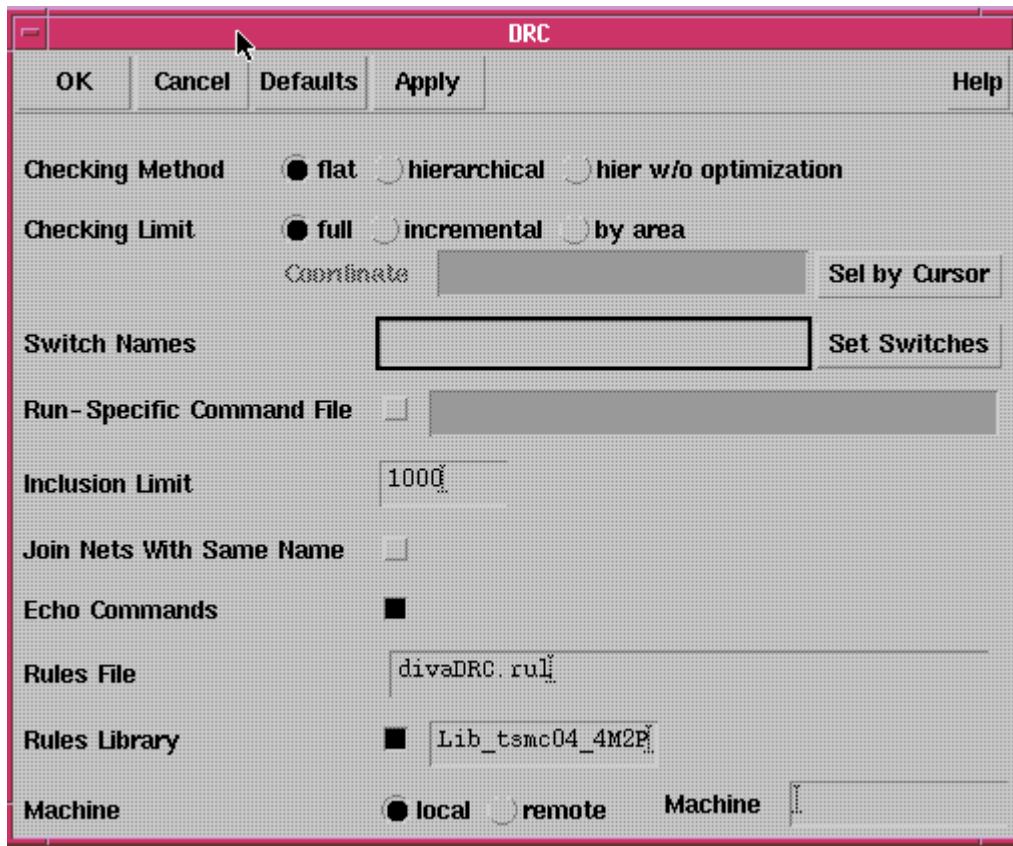

Fig. 17. Running DRC
- In *Layout Editing* window, select **Verify --> DRC...** Fig. 17 should appear. Just click OK